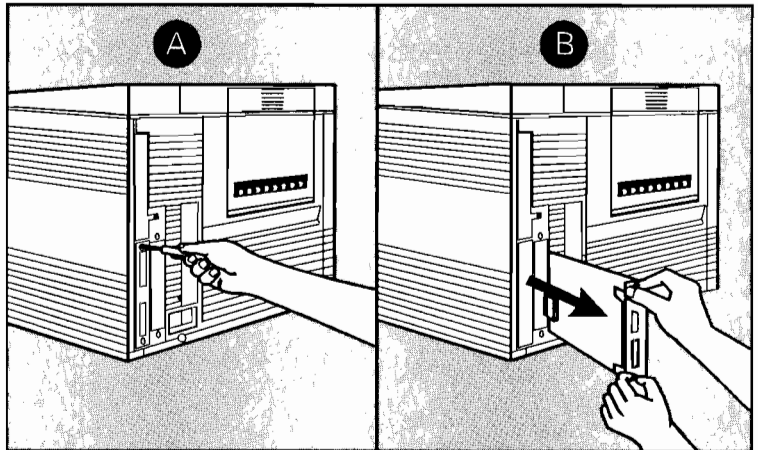

Figure 3-15. Removing the Existing Adapter Card
- a. Completely loosen the two captive thumbscrews from the installed adapter card. See (A) in Figure 3-15.
- b. Remove the existing adapter card from the HP LaserJet IIISi printer by pulling on the card's thumbscrew posts. Store the card in the antistatic bag in which your Token Ring card came. See (B) in Figure 3-15.